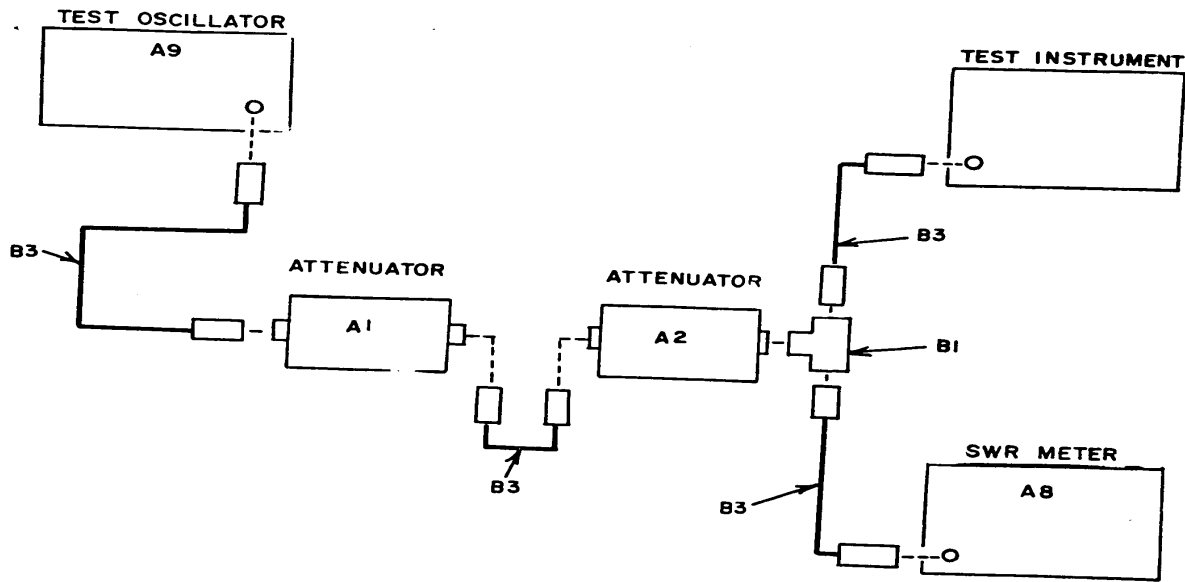

Figure 6. Attenuator accuracy - equipment setup.
(1) Connect equipment as shown in figure 6.
(2) Set attenuators (A1 and A2) to 0 (zero) dB.
(3) Adjust test oscillator (A9) frequency for 1 kHz and amplitude for an up-scale indication on SWR meter (A8).